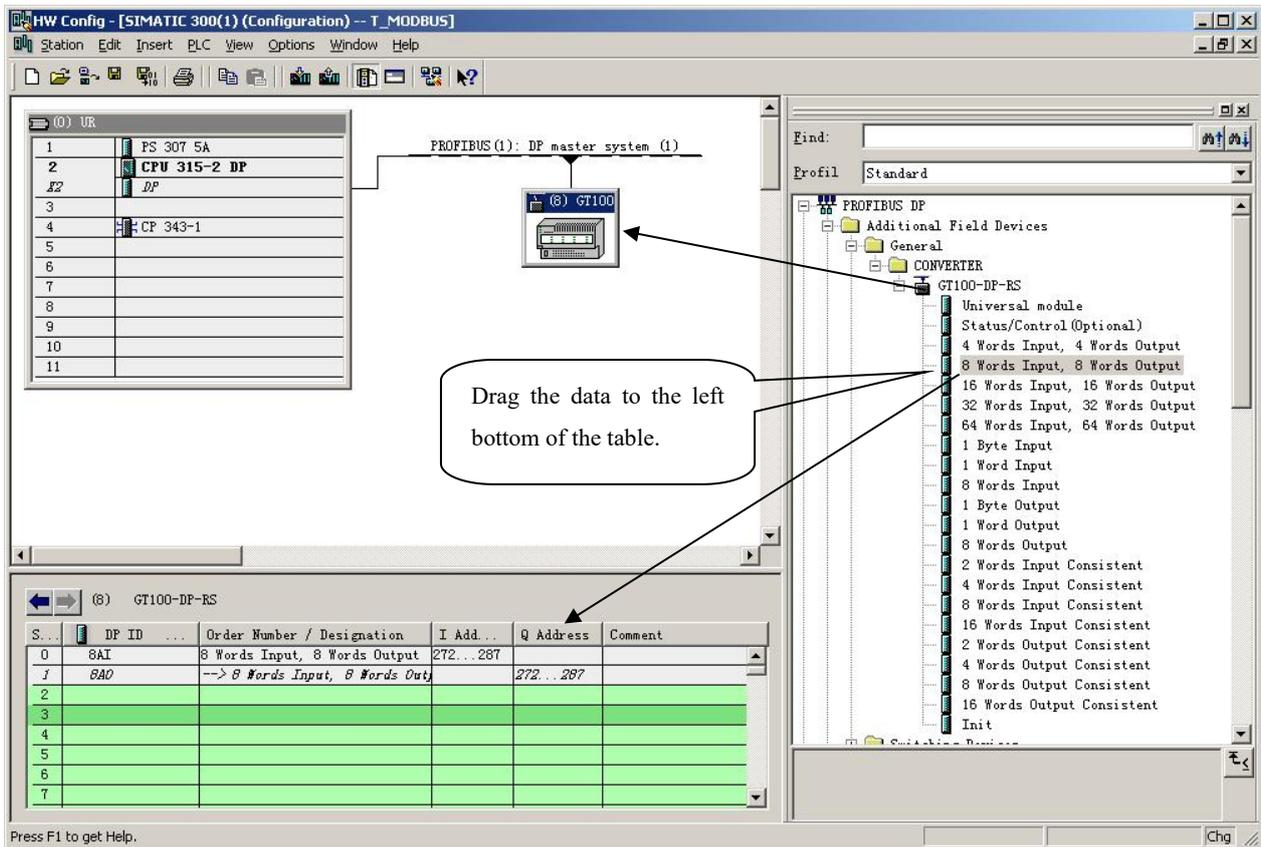

Figure 10
11. Configure GT100-DP-RS slave station into PROFIBUS DP network, and map the input and output data block to S7-300 or other controller's memory, As Figure 10 shown: